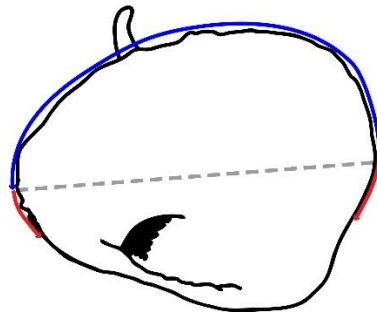

Figure 3
2. Width of Boss. Using a tape, measure each boss at its greatest width, at a 90-degree angle to the centerline (axis) of the horn, not the skull. (This is different from the method for the three larger buffaloes under Method 12-a.) Do not measure "green" or "soft" boss material. Depending on the horn configuration, it can be possible to take a "circumference" measurement for the width. Only measure the top 50 percent of the horn for the width; as soon as the horn starts curving inward (downward), stop the width measurement. (Figure 3) Do not press the tape into any depressions; span it over uneven points. Do not measure the skull under the boss; measure the horn only. Boss measurements may not be taken outside the outer edge of the eye sockets because the horns here begin to form an oval around the bone core of the horn, and if taken in extreme, it would lead to a circumference measurement.